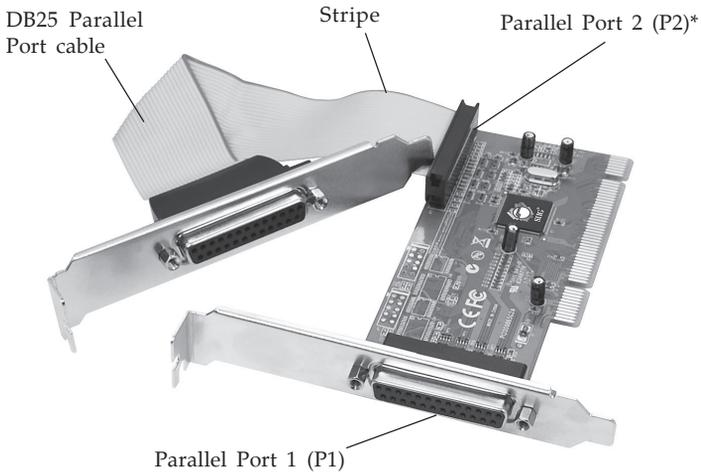

Figure 1. Cyber Parallel Dual
***Note:** When connecting the **DB25 Parallel Port cable** to **Parallel Port 2 (P2)**, position the ribbon cable so the stripe is on the side farthest from the slot bracket, see **Figure 1**.
4. If you need the second parallel port, connect the **DB25 Parallel Port cable** now and remove another slot bracket cover from an available PCI slot. See **Figure 1** on page 2 for more details. Skip this step if you need only one parallel port.